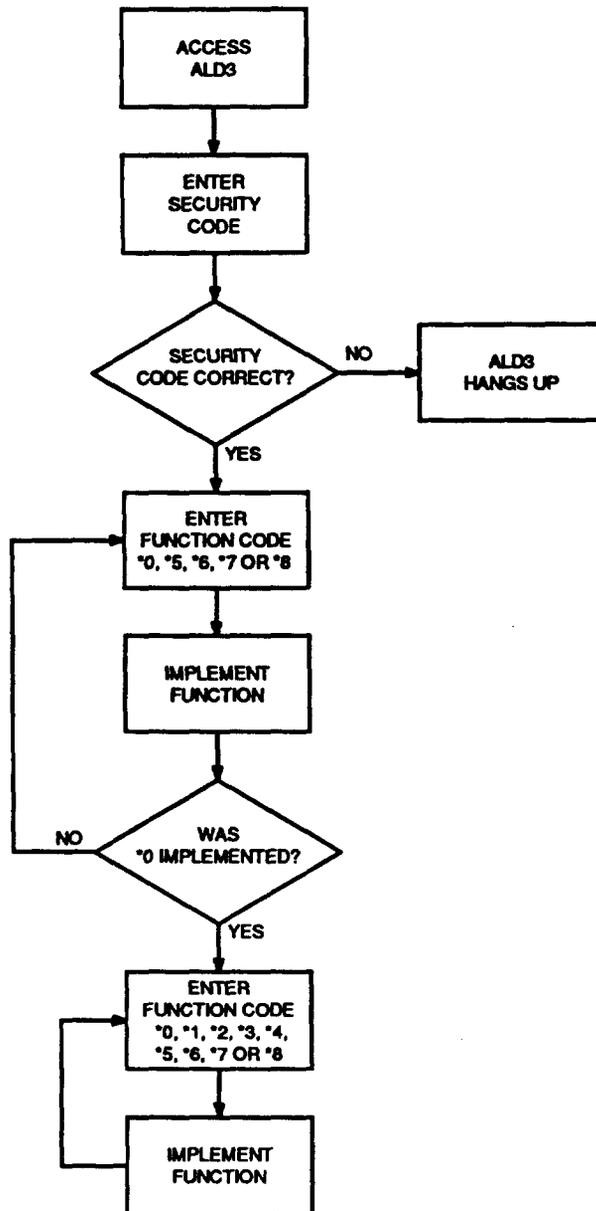

Figure 7. Telco User Flowchart
**9.03** The following procedure describes how the Telco user accesses the ALD3. After accessing the system, an announcement channel must be selected before the SIT Select, Record, Playback, or Diagnostic functions can be executed. The Telco and Commercial Security Code Assignment, ALD3 Reset, and Exit ALD3 - Access Concentrator functions can be executed without selecting a channel. Figure 7 is a Telco User Flowchart.